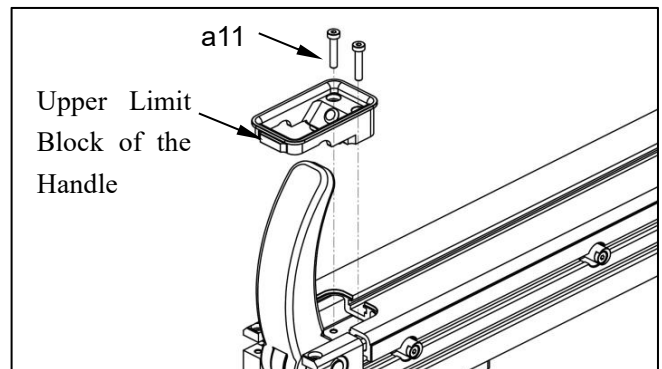

Fig. 37
7. As shown in Fig. 37, remove the two M4 screws (a11) in front of the locking handle and take out the upper limit block of the handle.